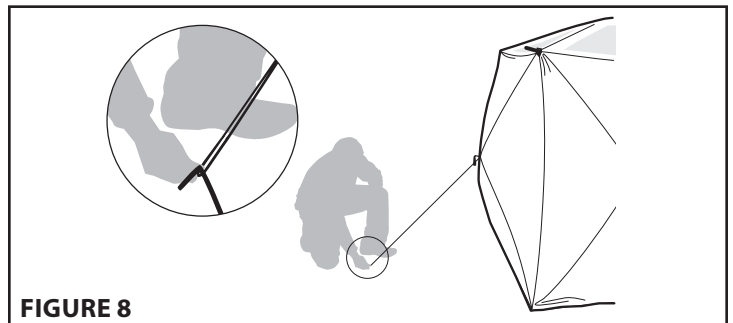

FIGURE 8
8. Move outside of your tent and begin securing your tent to the ground by using the provided stakes and tie down ropes. The stakes can be fastened through each of the tent grommets and the tie down ropes can be tied around hub eye-bolts and tightened to a stake in the ground. Use adjustment slides on the rope to achieve proper tension. [**SEE FIGURE 8**]